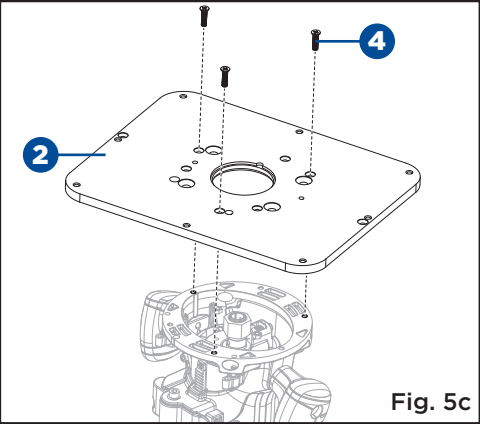

Fig. 5c
- Using the following chart for reference, and using one of the three included sets of three router insert plate screws (4), attach the router to the insert plate (2) with the pilot holes facing the router and the notch (5) in the insert plate facing the back of the router table. (Fig. 5c)